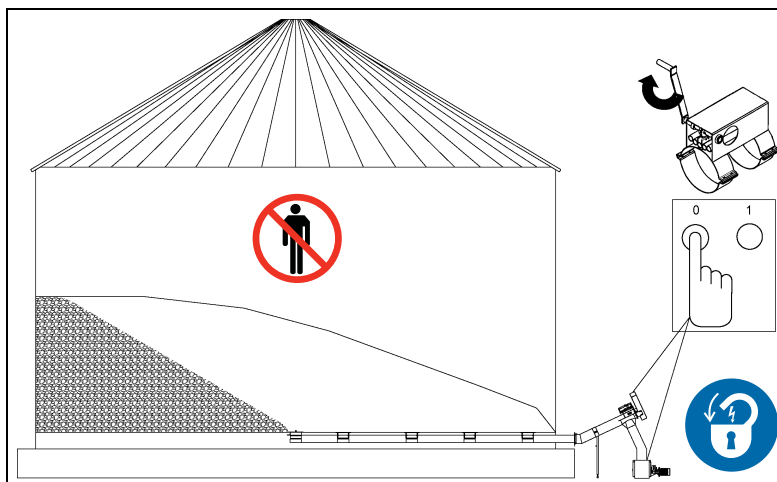

Figure 6E
5. Close wells, switch OFF and lock out power. (See Figure 6E.)
6. Place sweep in bin. (See Figure 6E on Page 48.)